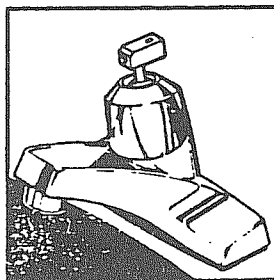

Figure 11
3. Carefully note the position of the handle adapter (5) to insure correct reassembly. Loosen handle adapter set screw (6) with allen wrench. Remove handle adapter. Fig. 11.
4. Lift off decorative cap (7).
5. Loosen and remove brass hold down ring (8).